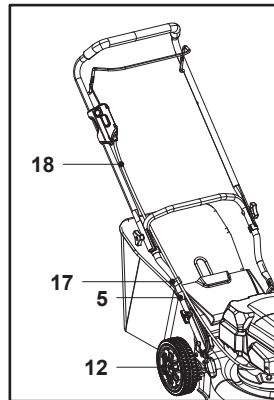

Fig. 4
7. Attach the control cord (18) with the cord clip (17), which is pre-assembled on the lower handle bar (5) (Fig. 4).